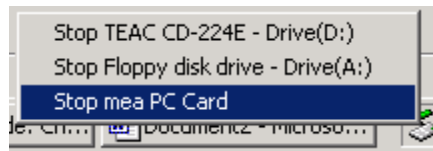

Figure 41. Unplug or Eject Hardware Icon
1. Click on the Unplug or Eject Hardware icon in the system task bar. Select **“Safely remove Generic Multifunction PC-Card”** from the popup menu as shown in Figure 41.